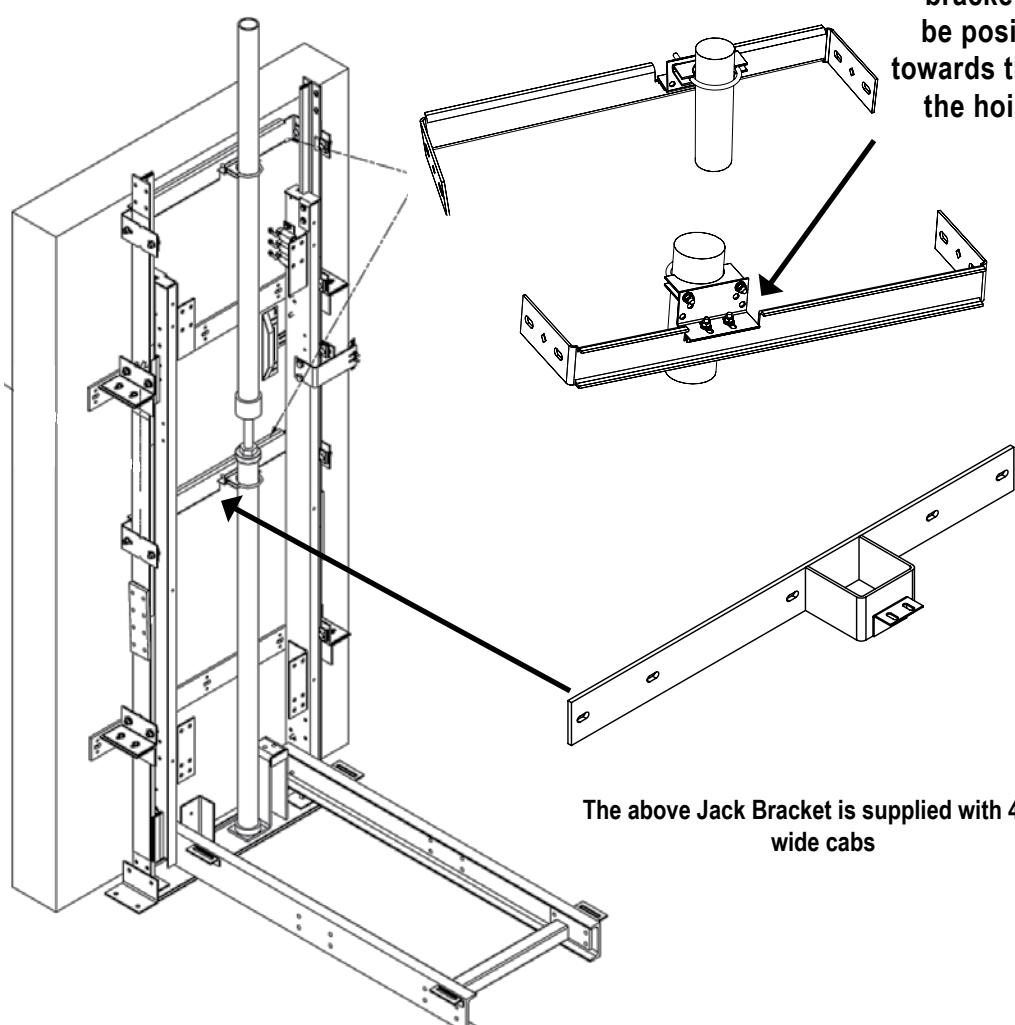

Figure 27 Jack Bracket Installed
- 1) Place the bottom of the upstand post into the pit channel and secure the top using the jack bracket shown in Figure 27, and 28. Do not tighten at this time. See Installation Drawings for exact bracket locations.